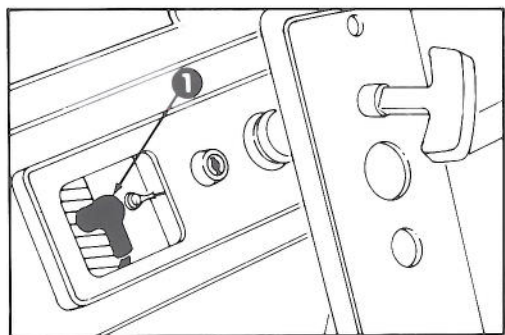

Figure 16
2. REMOVE SPARK PLUG (Fig. 16) — Pull wire off spark plug and remove plug. Examine the plug and replace if cracked, fouled, or